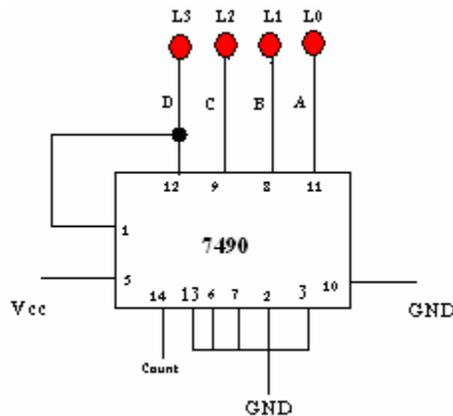

Figure.9: 7490 counter
1. Connect the circuit shown in Figure.9